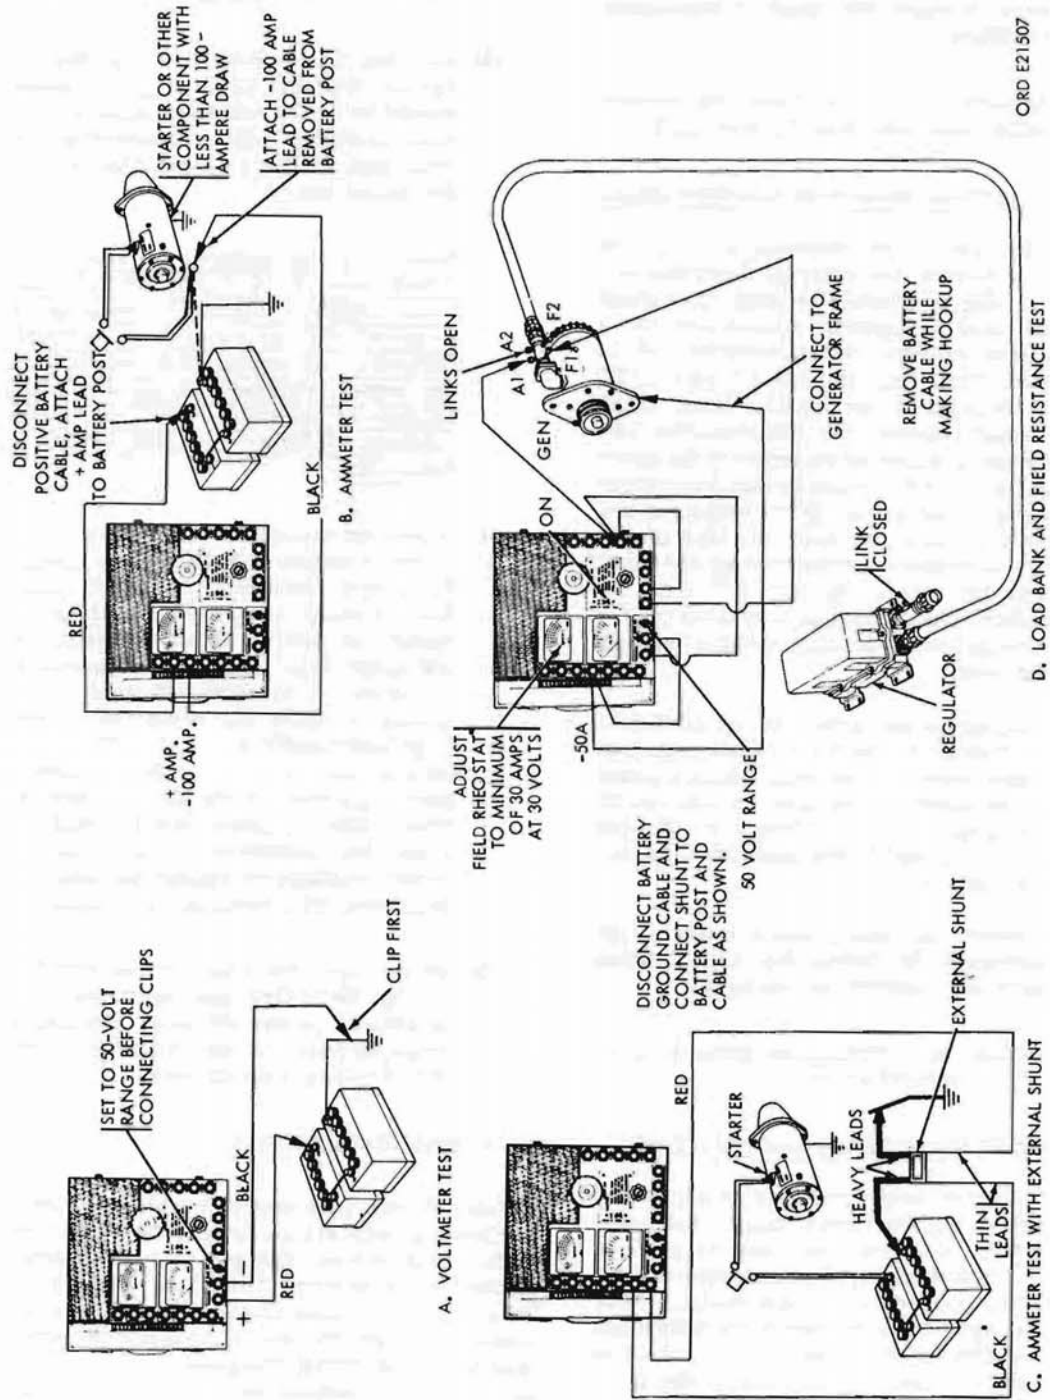

Figure 39. Typical arrangement for use of circuit tester
- (5) Connect the negative (black) lead first to the circuit to be tested. This will usually be the chassis frame, or a similar ground point (fig. 39, A).
- (6) Touch the positive (red) lead to the other circuit connection. If the meter needle moves to the left, reverse the
- (5) Be sure that no power is being applied to the circuit to be tested. Separate the circuit at a convenient junction point to form two connection points. Connect the red wire to the connection point which is electrically closer to the battery positive (+) terminal. Connect the black wire to the other connection point (fig. 39, B).
- (6) Apply power to the circuit momentarily, observing the ammeter. The needle should move to the right. If the needle moves to the left, interchange the red and black wires at the circuit test points—not at the tester binding posts.
- (3) Connect the heavy shunt leads to the circuit to be tested (fig. 39, C). Make sure all connections are tight.
- (4) Follow all instructions given in b(5), (6), (7) and (8) above.